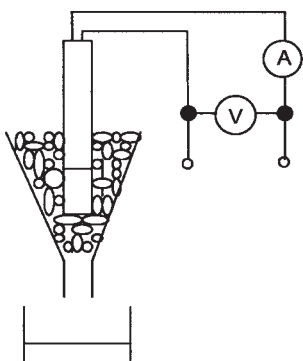

Figure 8.6 Activity 3
- 3 Determine the specific latent heat of fusion of ice. One method that can be used involves the use of a 12 V electric immersion heater. The heater element is placed in a filter funnel surrounded with closely packed small pieces of ice (Figure 8.6). The heater is switched on for 3 minutes and the mass of water produced measured. The power IV delivered to the heater can be measured by an ammeter and voltmeter. Neglect heat gains from the surroundings.